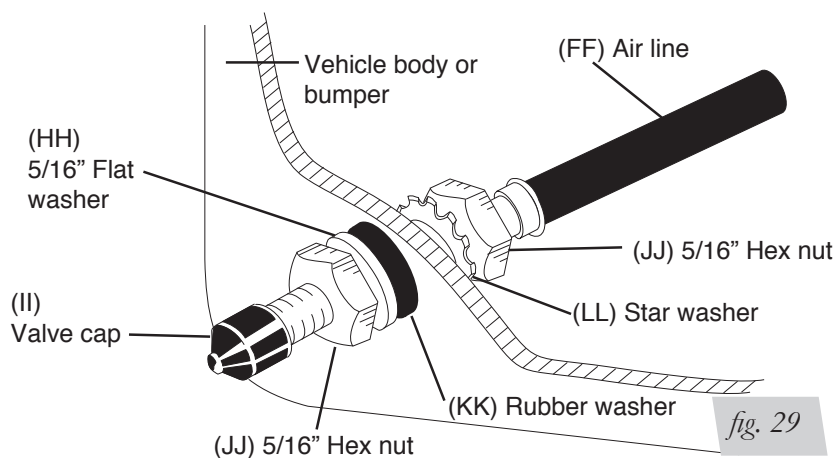

fig. 29
4. Place a 5/16" nut and star washer on the air valve. Leave enough of the inflation valve in front of the nut to extend through the hole and have room for the rubber washer, flat washer, and 5/16" nut and cap. There should be enough valve exposed after installation—approximately 1/2"— to easily apply a pressure gauge or an air chuck (fig. 29).